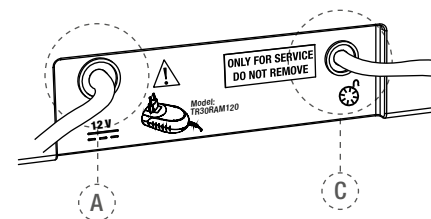

Fig. 2 Back of central unit
- Insert the connector of the battery charger in jack connector (A – see Fig. 2) at the back of the device (for details see chapter 7.3.3).
- Plug the foot pedal cable into the jack, located on the back of the device (C – see Fig. 2).
**Flashing orange:** Battery charger is correctly connected to socket (A – see Fig. 2) at the back of the device and battery is charging.